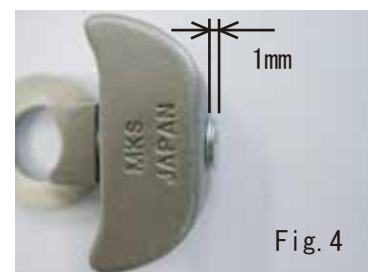

Fig. 4
- 2) The head of adjuster bolt should be 1mm above base of the chain adjuster. (Fig.4)